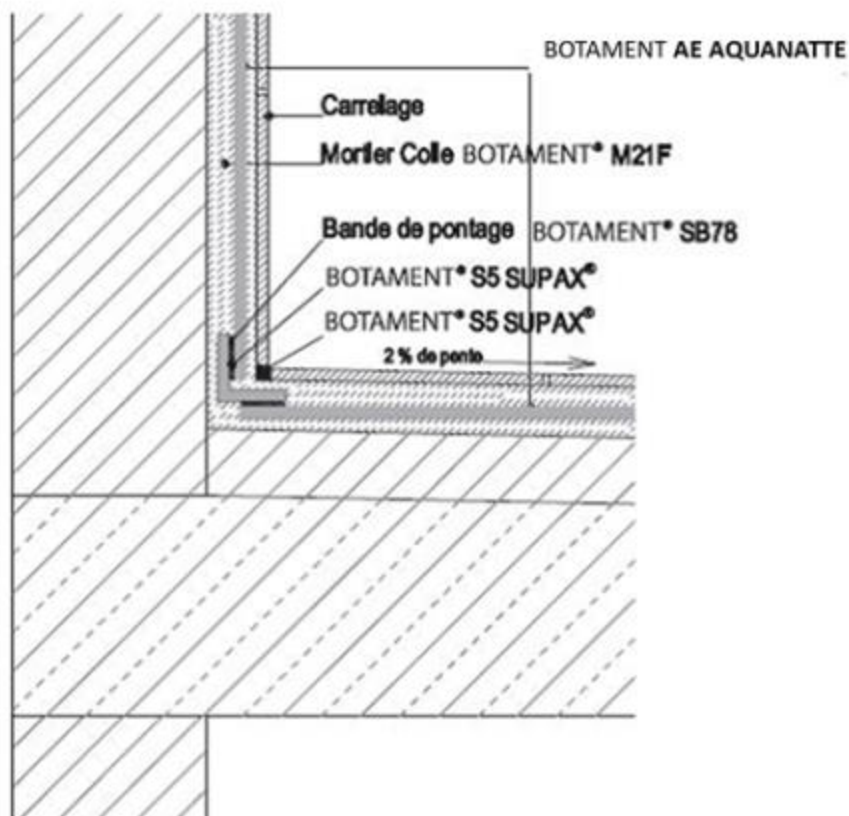

Figure 1 – Raccordement sol-mur
2.4.1.3.1. Raccordements sol-mur (figure 1)